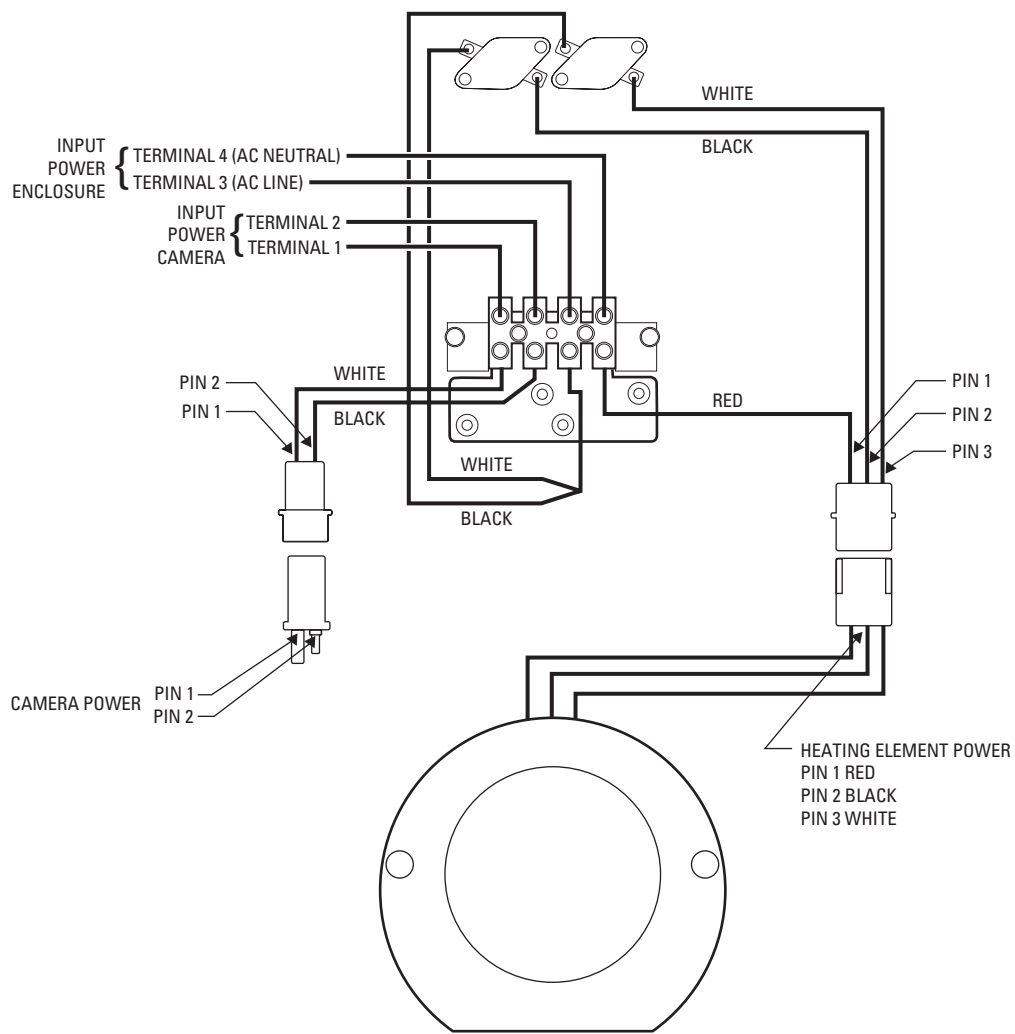
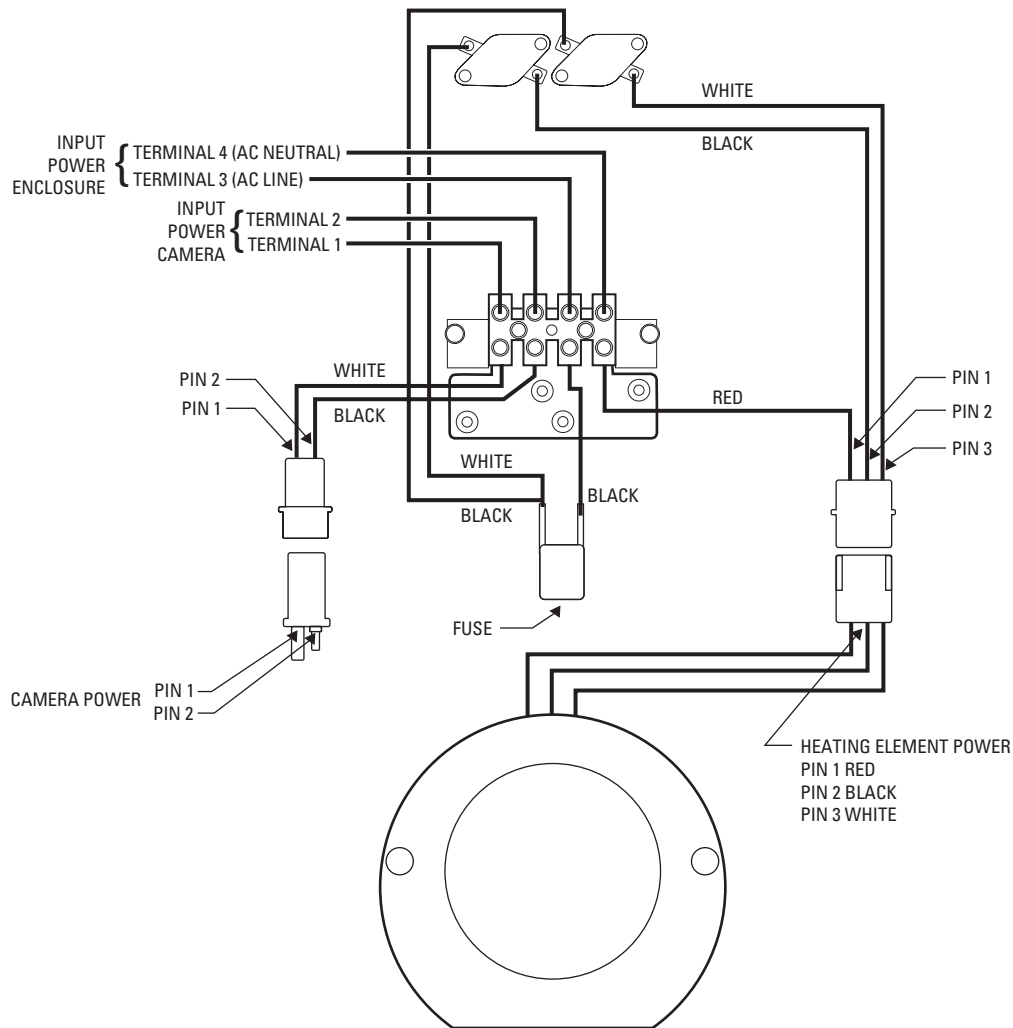

Figure 5. Enclosure Input Voltage 24 VAC
Figure 6. Enclosure Input Voltage 120/230 VAC
4. Connect the enclosure input power, camera input power, and video cable (refer to Figure 5 and Figure 6).
- The wiring diagram in Figure 5 (24 VAC) and Figure 6 (120/230 VAC) are for applications where the input voltage for the enclosure and camera are different. For example, the enclosure input voltage is 120 VAC and the camera input voltage is 24 VAC.
- (1) Connect the input power for the enclosure to terminal 3 (AC LINE) and terminal 4 (AC NEUTRAL).
- (2) Connect a jumper wire from terminal 1 to 3 and a jumper wire from terminal 2 to 4.